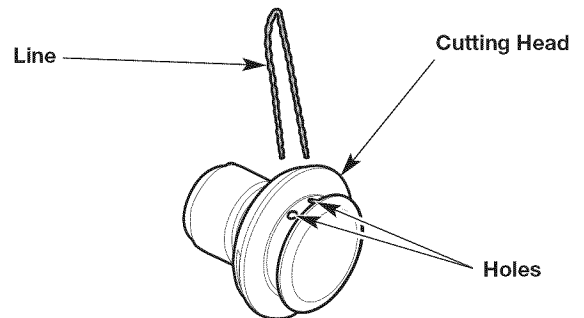
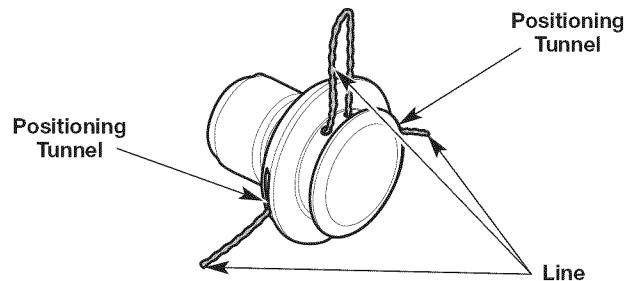

Fig. 23
Fig. 24
3. Insert the ends of the new trimming line into the holes in the cutting head (Fig. 23). Push the line through the holes until both ends protrude from the positioning tunnels (Fig. 24).